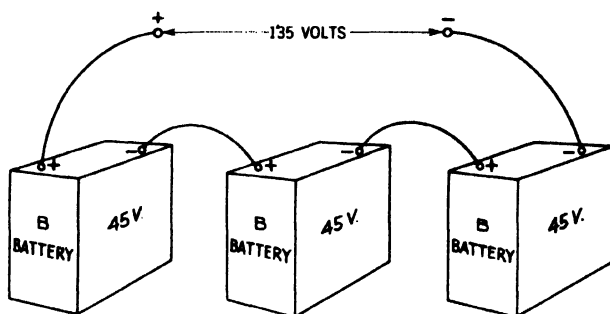

Fig. 29-19. Circuit showing three B batteries in series.
**B Batteries.** For radio use, a number of dry cells may be connected in series, and the whole sealed into a single block by means of wax or pitch. These blocks are known as B batteries. The most commonly used types are blocks of 15 cells (22.5 volts) and 30 cells (45 volts). Should we wish to obtain a higher electromotive force, we may connect several such B batteries in series (Fig. 29-19).